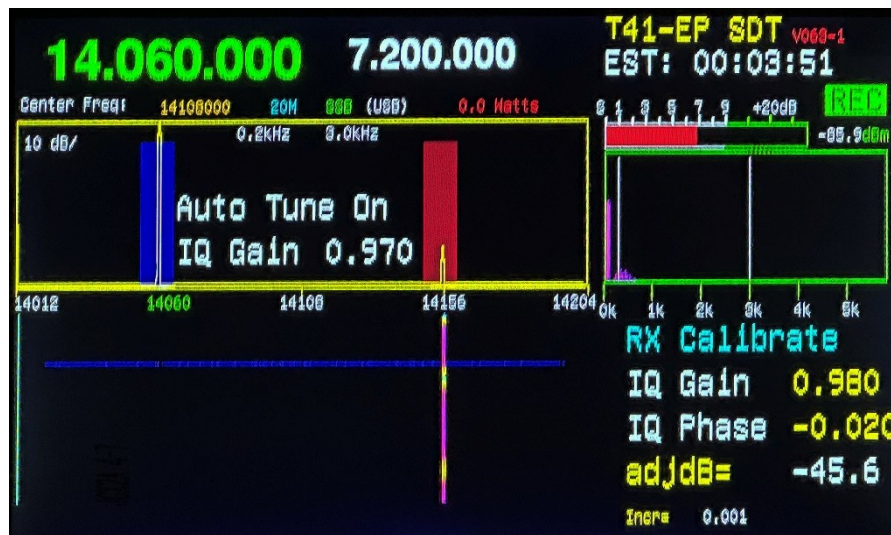

Figure 6 Auto Cal in Process
- o Press the User2 Button to calculate the parameters. Figure 6 shows the Auto Cal in progress.